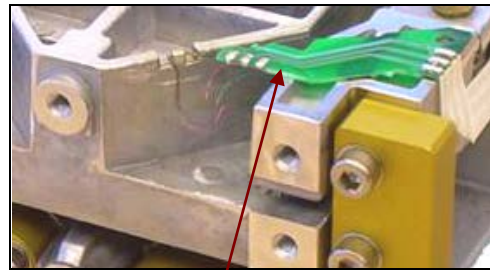

Figure 3-69. Contact Board.
8. Glue the Contact Board to the frame, as in Figure 3-69.
10. Solder the 3-wire Ribbon Cable to the Contact Board. (See Figure 3-69.)